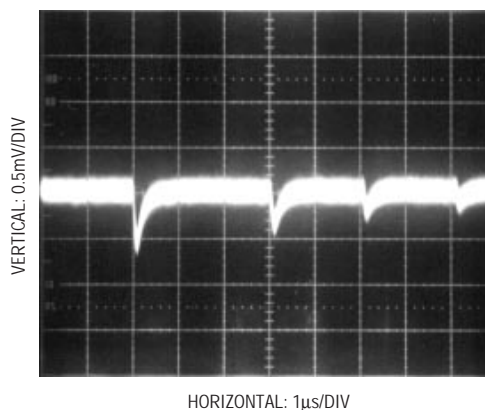

Figure 15. Adequate Reference Settling
1. Transients on the reference inputs caused by the capacitive switching currents must settle completely during each bit test (each 4 ACLK cycles). Figures 15 and 16 show examples of both adequate and poor settling. Using a slower ACLK will allow more time for the reference to settle. However, even at the maximum ACLK rate of 4MHz most references and op amps can be made to settle within the 1 μ s bit time. For example the LT1027 will settle adequately or with a 10 μ F bypass capacitor at REF+ the LT1021 can also be used.